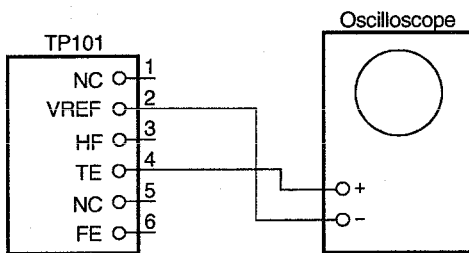

Fig1
6. Turn SELECT knob (" 0 2 " is displayed), also, press PLAY/PAUSE button. Tracking error signal can be observed with the connection below. (Fig1)